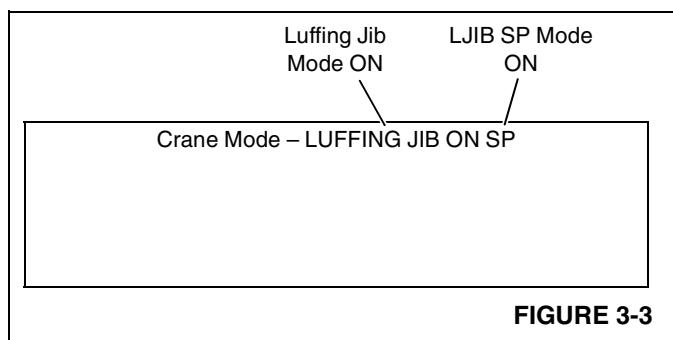

FIGURE 3-3
2. Select and confirm luffing jib mode. After confirming this mode, top line of display should read (see Figure 3-3):